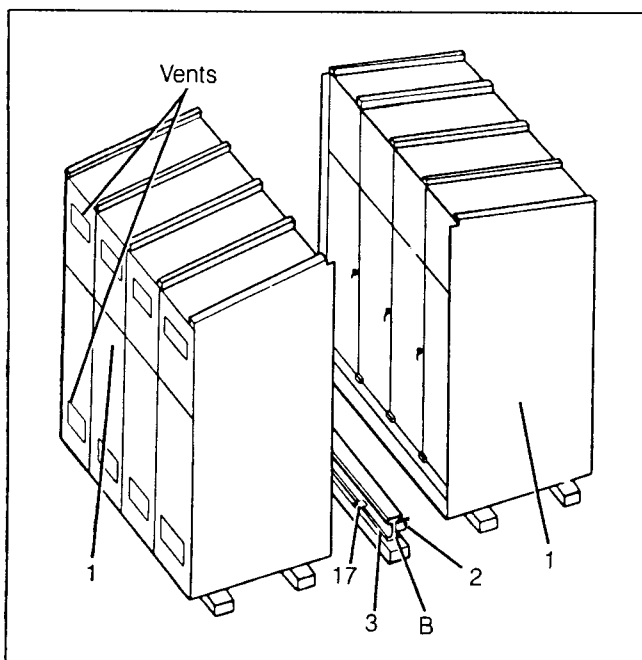
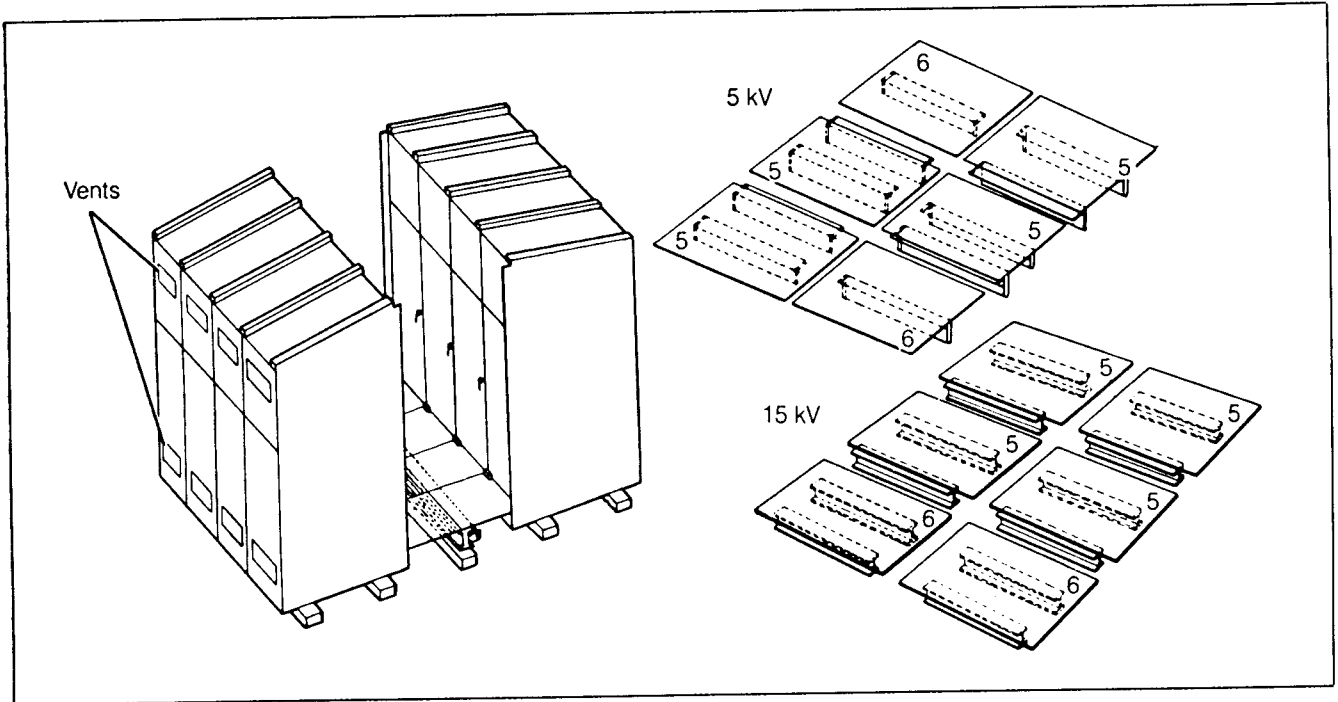

Figure 30. Initial Positioning — Common Aisle Layout
Figure 31. Floor Plate Installation — Common Aisle Layout
1. Place aisle beam (3) in position "B" and secure with anchor bolts. (See Figure 30.)
2. Attach angle (2) to ends of aisle beam (3) as shown.
3. See Figure 31. Install all floor plates using 5 kV or 15 kV pattern shown. Each plate overlaps the supporting member of the next plate; determine sequence of installation. Place each set of floor plates to equalize the space between the floor plates and prevent a wide crack at end of group.